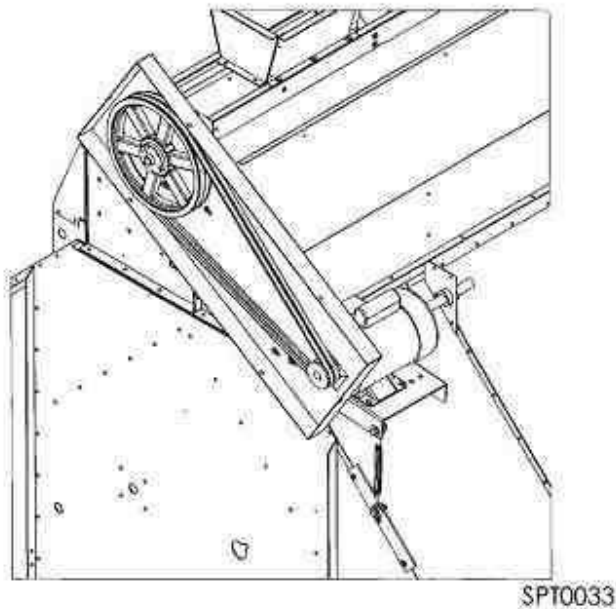

Fig. 2-17 – Final assembly (without front shield)
9. Attach a 3-1/2" O.D. pulley to motor shaft with a key and attach 15-3/4" O.D. pulley to top load auger with a taper lock bushing. Use straight edge to align pulleys. Attach two B95 belts between auger pulley and motor pulley. Tighten turnbuckle to tighten belts. See Fig. 2-17. Tension belts so it takes about 6 lbs. pressure to deflect belt 1/2" at center of belt span.
10. Final assembly should appear as in Fig. 2-17 (Shown without front shield).